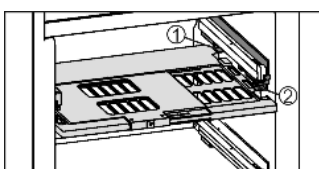

Fig. 15
- ▶ To insert the humidity control plate: Insert the cover mouldings of the plate into the rear holder *Fig. 15 (1)* from underneath and engage them in the holder *Fig. 15 (2)* at the front.